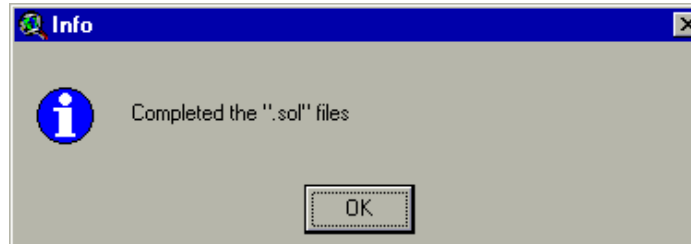

Figure 8.15
- b. From the **Input** menu, select **Write Soil Data (.sol)** (or press `Ctrl+D`). This selection generates the HRU soil data (see the *Soil and Water Assessment Tool User's Manual, Version 2000*, Chapter 22). When the data files have been written, a message box will pop up (Figure 8.15).